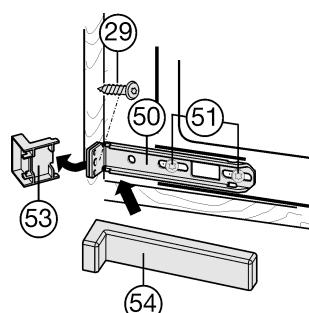

Fig. 20
- Slightly loosen the screws Fig. 20 (51).
► Secure the bottom mounting bracket Fig. 20 (50) to the unit wall with a Ø4x19 chipboard screw Fig. 20 (29).
- Break off the protruding end of the cover Fig. 20 (53).
► Tighten the screws Fig. 20 (51).
► Place the cover Fig. 20 (54) into position on the bottom mounting bracket Fig. 20 (50).